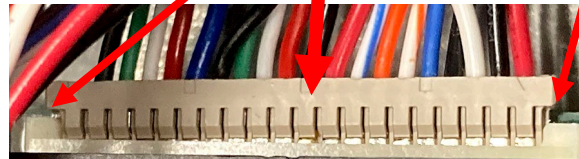

Figure 6.2
- Ensure the connector, that attaches directly to the rear of the touch screen, is fully inserted into the connector by pressing in on both sides of the connector (see Figure 6.2). The photo shown above shows the right side slightly out of the connector. It may require disconnecting and reconnecting the connector. Both sides of the connector **should be flush** against the connector on the board.